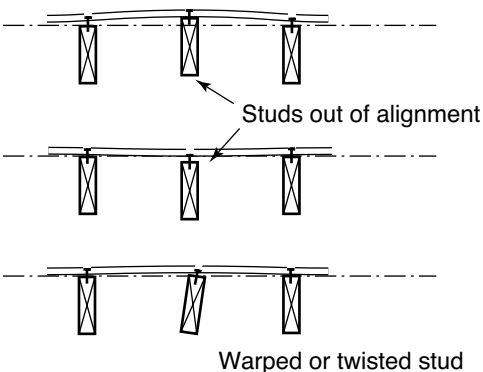

FIGURE 58
- ◆ Inspect the framing before applying gypsum board. Alignment should not vary by more than 6 mm (1/4 in.). Straighten warped studs by saw-cutting and wedging (see Figure 58).